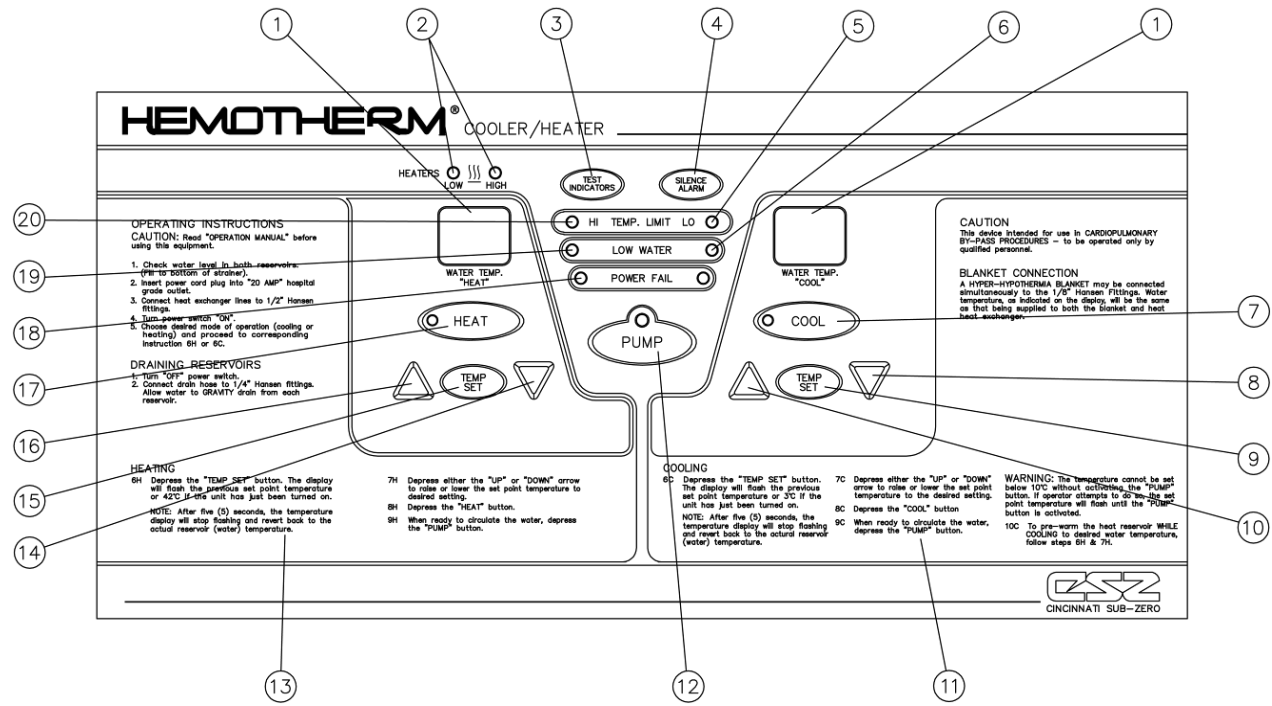

FIGURE 1-2, CONTROL PANEL – 115V UNIT
**Reference Figures 1-2, 1-3, 1-4, & 1-5 Keypad Views**